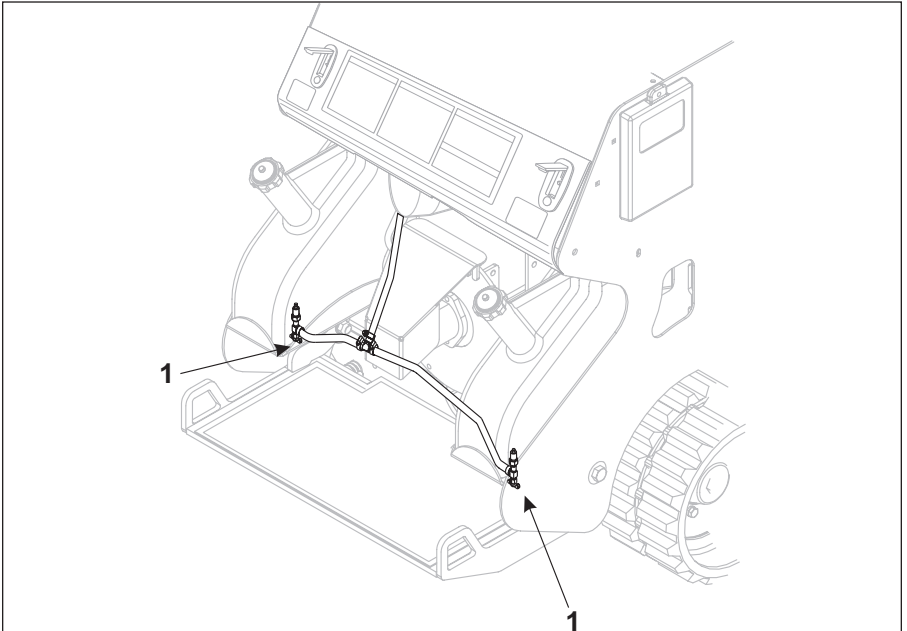

Figure 4-23 Fuel Shut Off Valves
4. Shut off the fuel valve (Item 1, Figure 4-23) located on the bottom of each of the fuel tanks.